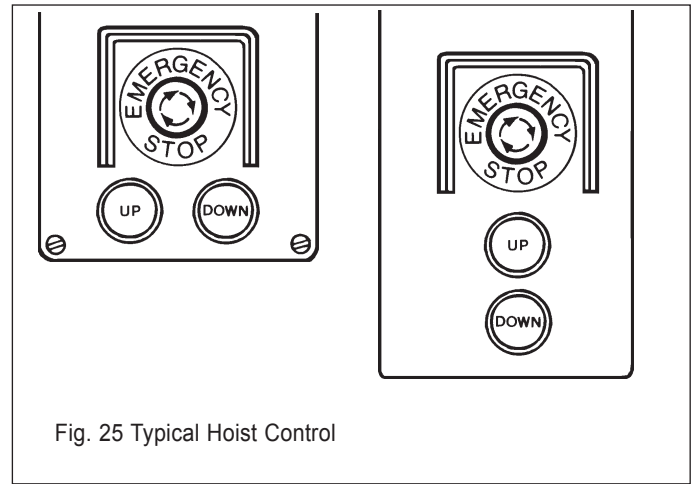

Fig. 25 Typical Hoist Control
- d) Check EMERGENCY STOP button and pushbutton control (Fig. 25)